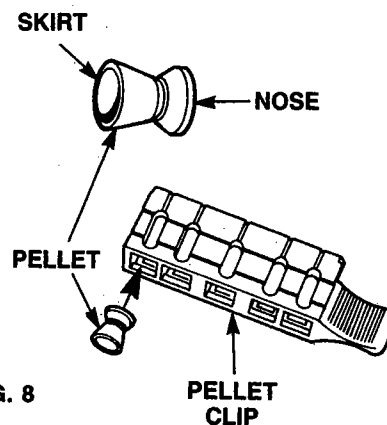

FIG. 8
- Place a pellet (nose first) in each of the five pellet chambers (Fig. 8). **IMPORTANT:** To avoid jams or deforming pellets make sure each pellet skirt is level or slightly below the rim of the pellet chamber.